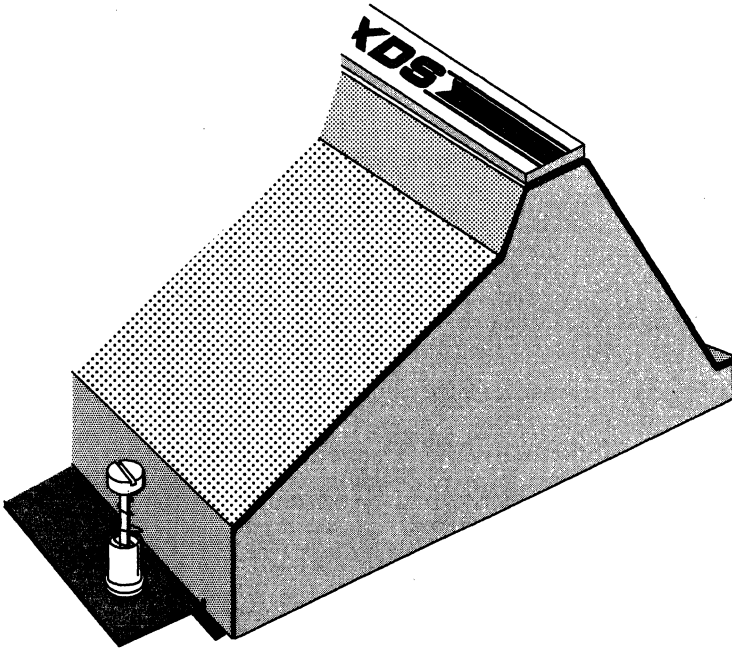

Figure 9-8. Card-Cage Cover, Right Side
- 2) Loosen two captive thumb screws on XDS card-cage cover (Figure 9-8).